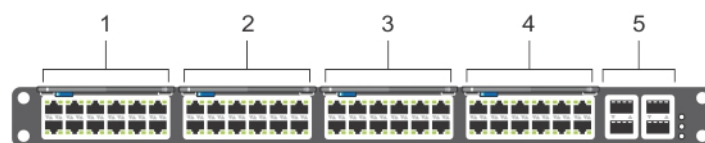

Figure 2. S5000 I/O Panel
- Identify slots 0, 1, 2, and 3 on the I/O panel, refer to Figure 2. You can insert a Fibre Channel module only in slot 0. You can install the Ethernet modules in slots 0, 1, 2, and 3.